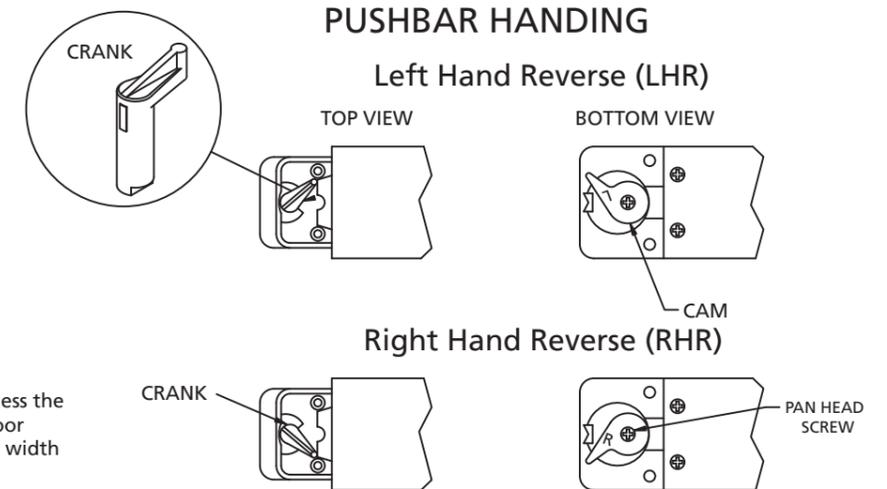

FIG. 6
E.3 HANDING REVERSAL FOR CAM (Fig. 6):